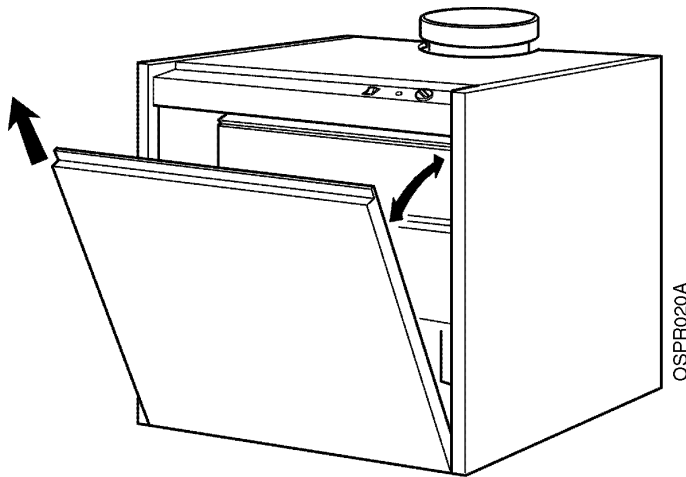

Fig. 15
1. Remove the front door by pulling forward then lifting up, see Fig. 15.